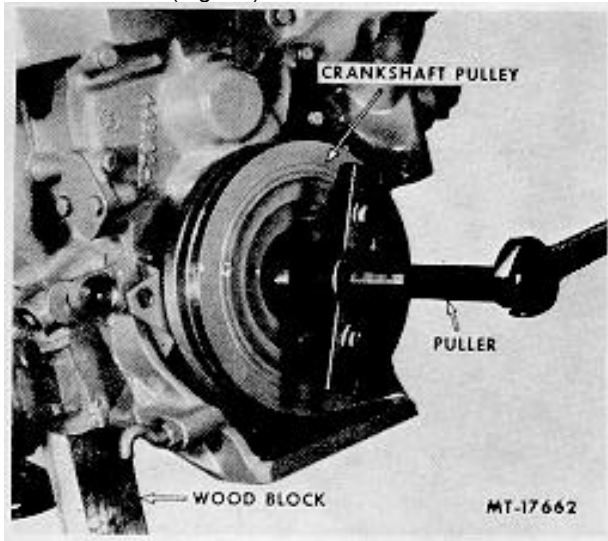

Fig. 44 Crankshaft Pulley Removal
47. Position wood block between crankshaft counterweight and crankcase to facilitate removal of crankshaft pulley using SE-1368 Puller (Fig. 44).